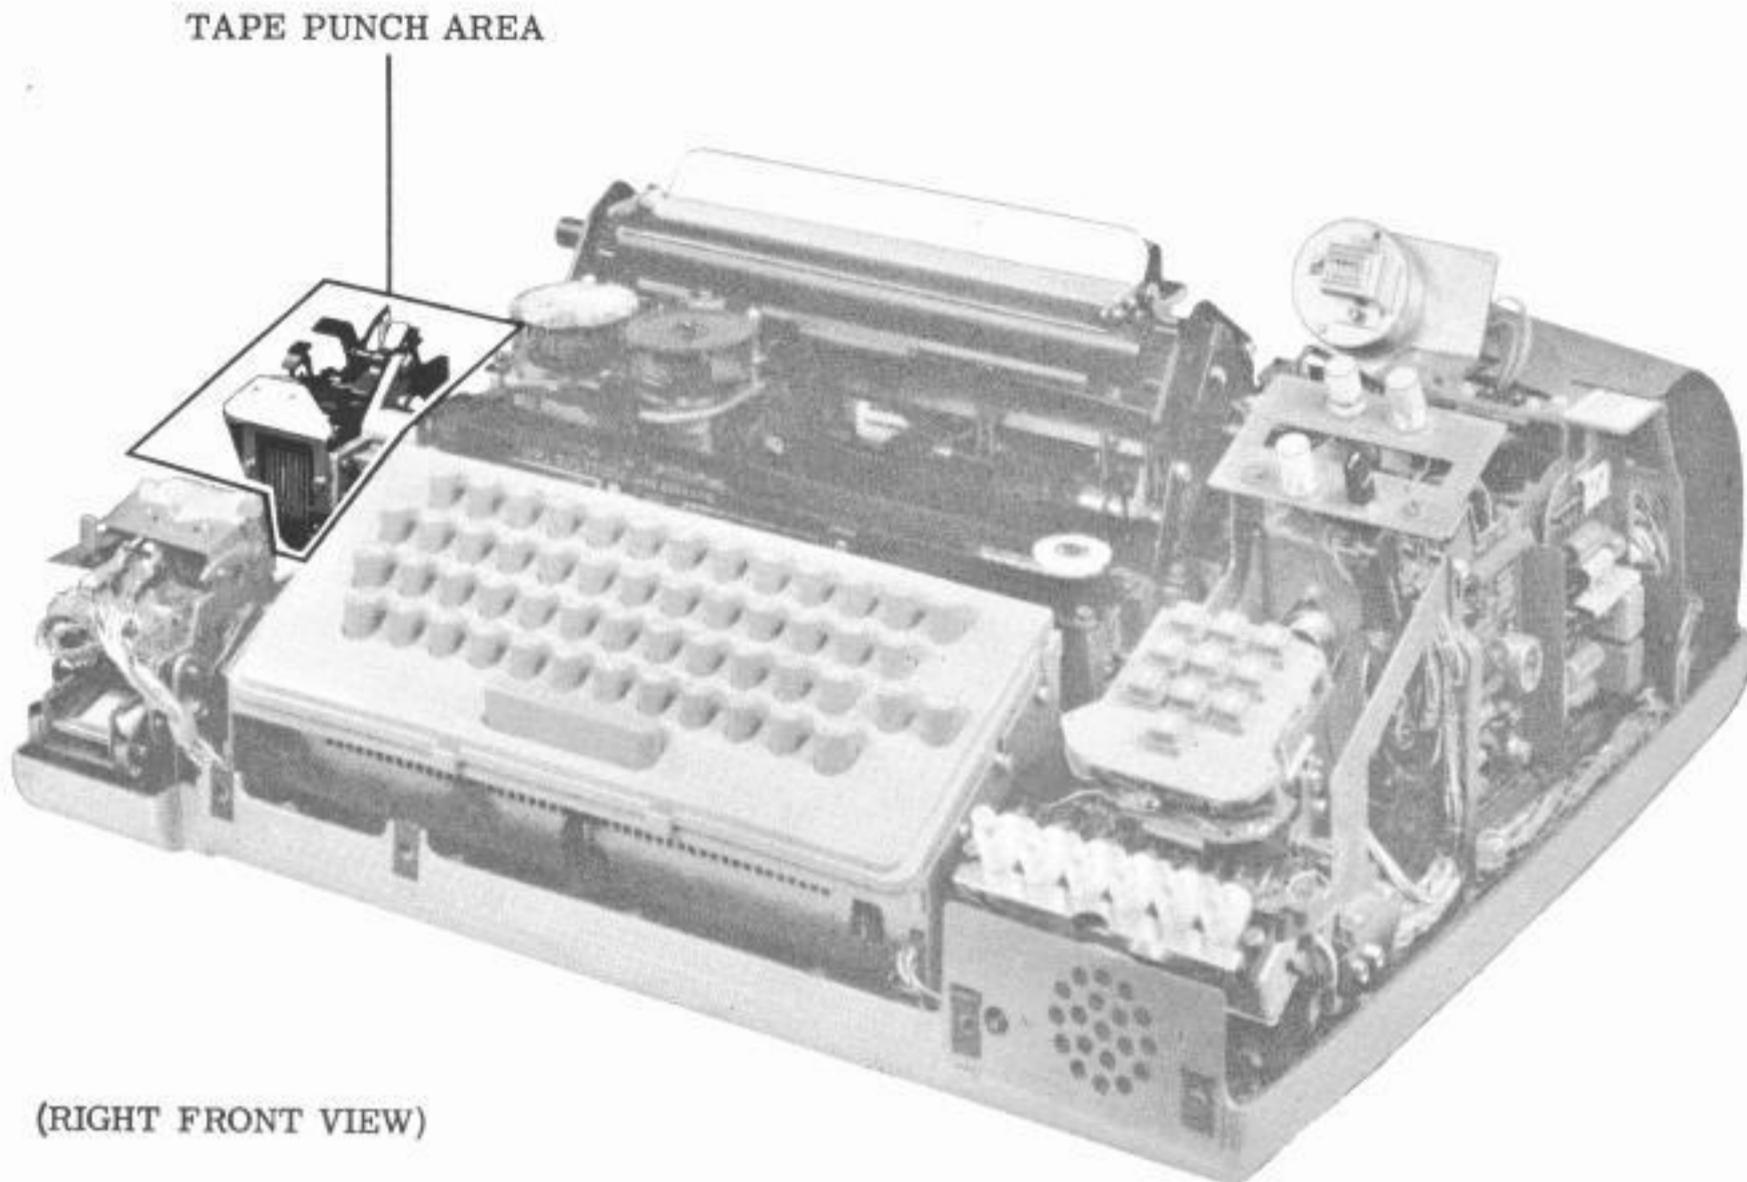

Figure 1 - Tape Punch Area
1.02 There is just one area in which tape punch adjustments and spring tensions are found. Figure 1 is provided to show this area — tape punch area.